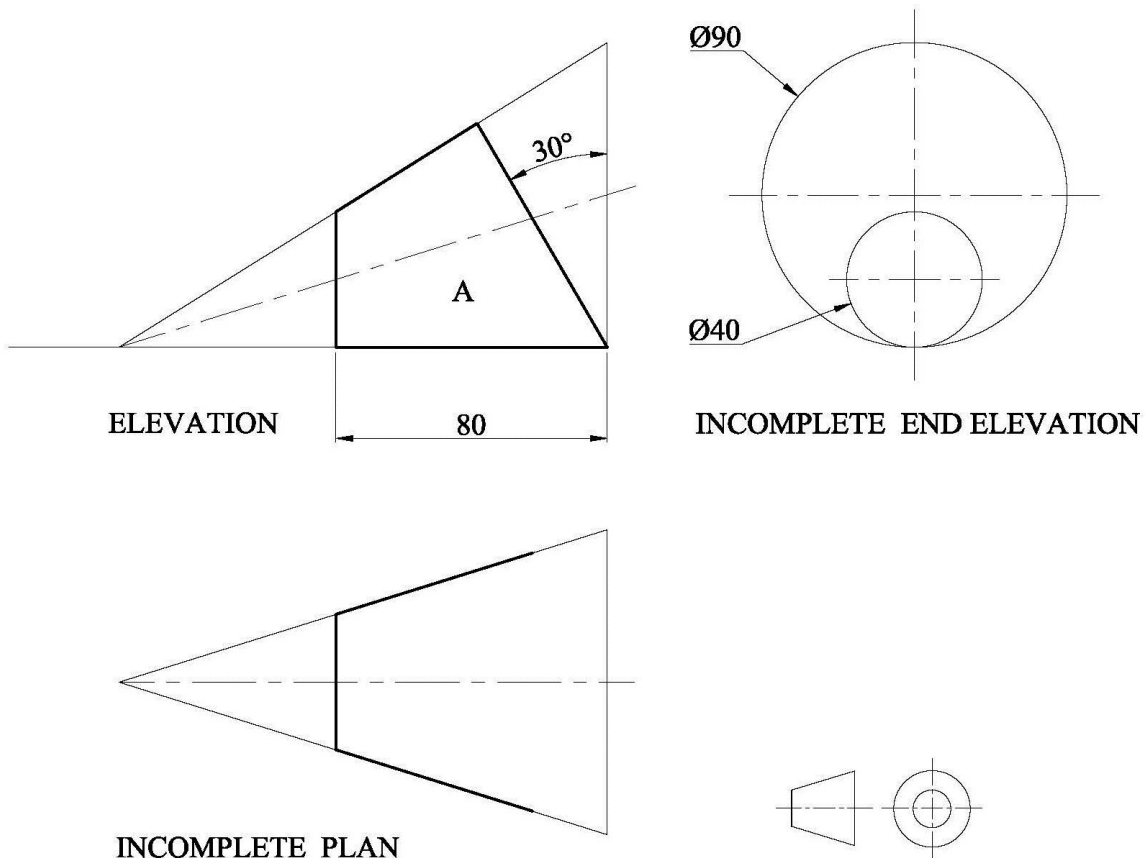

FIG.1b
Part of an oblique cone (shown resting on its slant height in Figure 1a) is sectioned at the top end and is connected to a 40mm cylindrical pipe. The base of the cone is also sectioned (refer to the elevation in Figure 1b for details of the cone section).
- a) Copy, full size, Figure 1b.